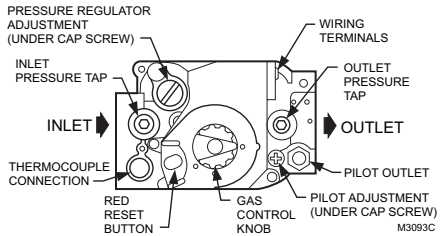

Fig. 5. Top view of gas control.
Models with slotted pressure regulator cap, (see Fig. 5), require a conversion kit. Gas controls with standard or slow opening regulators can be converted from one gas to the other with a conversion kit (ordered separately). Order part no. 393691 to convert from natural (manufactured) to LP gas; order part no. 394588 to convert from LP to natural (manufactured) gas. Follow instructions provided with kit. Gas controls with step opening regulators cannot be converted.
6. Connect pipe to gas control inlet and outlet. Use wrench on the square ends of the control. If a flange is used, place wrench on the flange rather than on the control. (See Fig. 5 and 6).
3. Unscrew compression fitting from the pilot outlet. (See Fig. 5). Slip the compression fitting over the tubing and slide tubing out of the way.
- Remove the pilot adjustment cover screw. (Refer to Fig. 5).